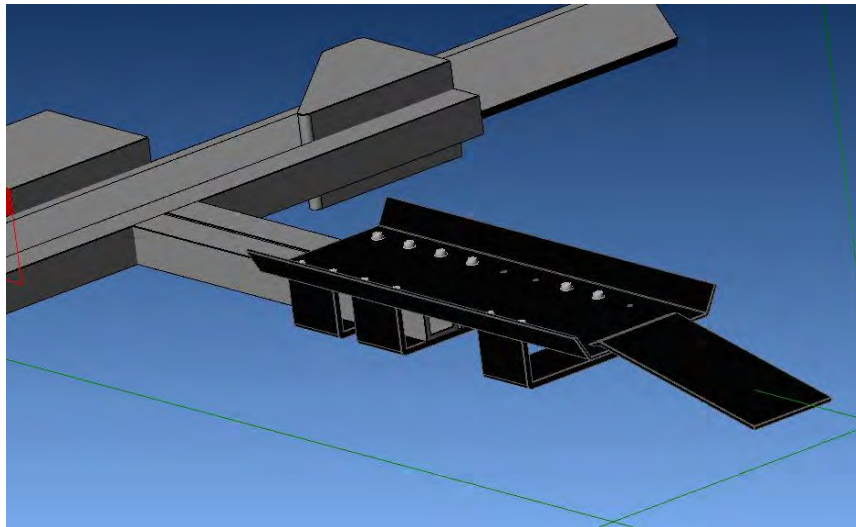

Figure 3
4. Slide Rear Support Plate Assembly (C) over both L-arms. Depending on the length of the bike being transported, it may slide completely over the length of the L-arms, or may be cantilevered further back using the two front mounting tubes as shown in Figure 3. Insert the Ramp (D) into the slot in the rear of the plate as shown in Figure 3.